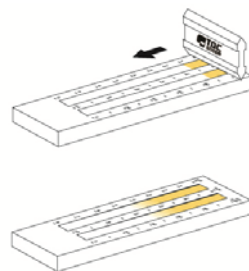

Figure 1
- Place the scraper on the surface of the gauge behind the material. Use both hands to hold the scraper as shown in Figure 1.